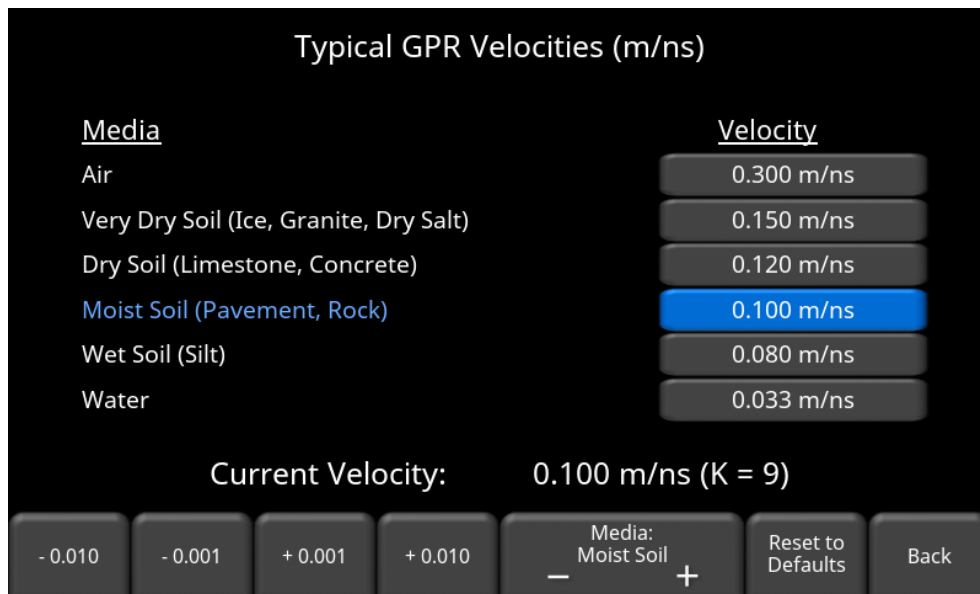

Figure 6-11: Setting GPR velocity (in US Standard units)
If you have obtained the velocity, or know the type of soil conditions, you can set it by pressing Velocity to display the screen in Figure 6-11, where the velocity can be set.
The table in Figure 6-11 shows typical velocity values for various soil media. It will display in whatever the selected measurement Units \(5.1.2\) are. The current velocity setting is shown at the bottom of the screen, along with corresponding dielectric constant (K). Velocity and dielectric constant are related by the following equation: